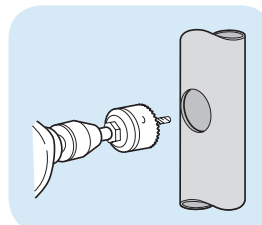

Fig. 11
- Cut correct hole size and deburr. For correct size hole cutter refer to table on page 56 (Fig. 11).